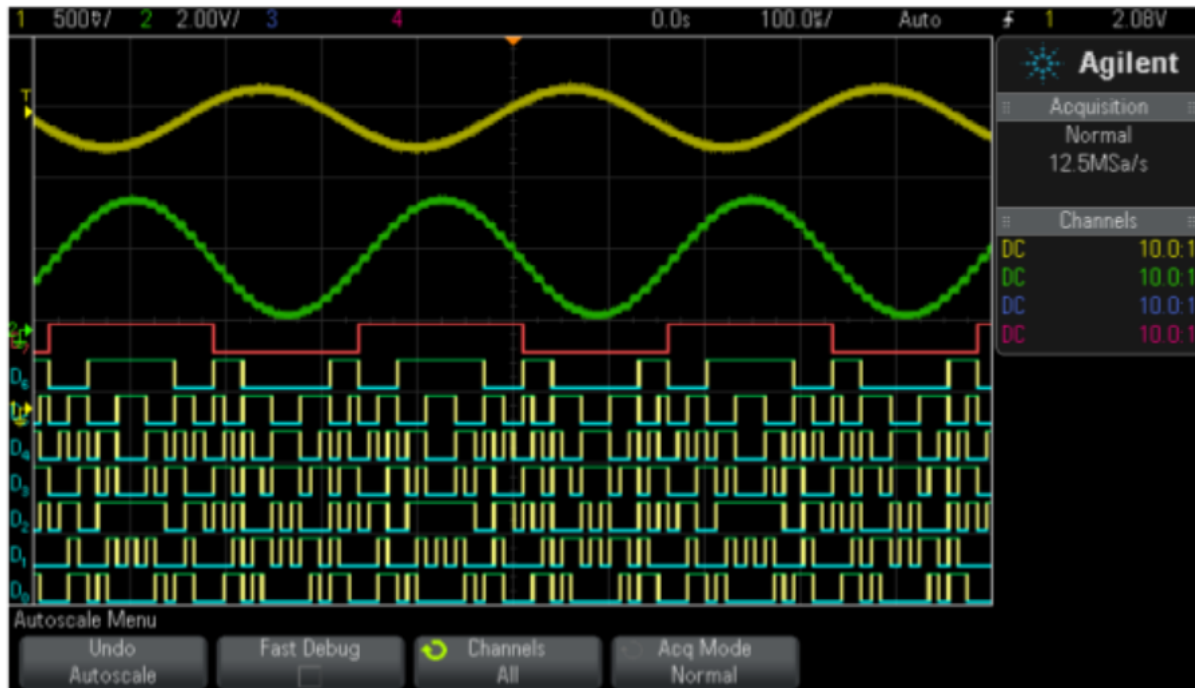

Figure 9: Digital waveforms
- Press the “Digital” button on the right hand side of the scope and then “Auto Scale” to acquire the waveform. The display of digital signals will look similar to the image in Figure 9.